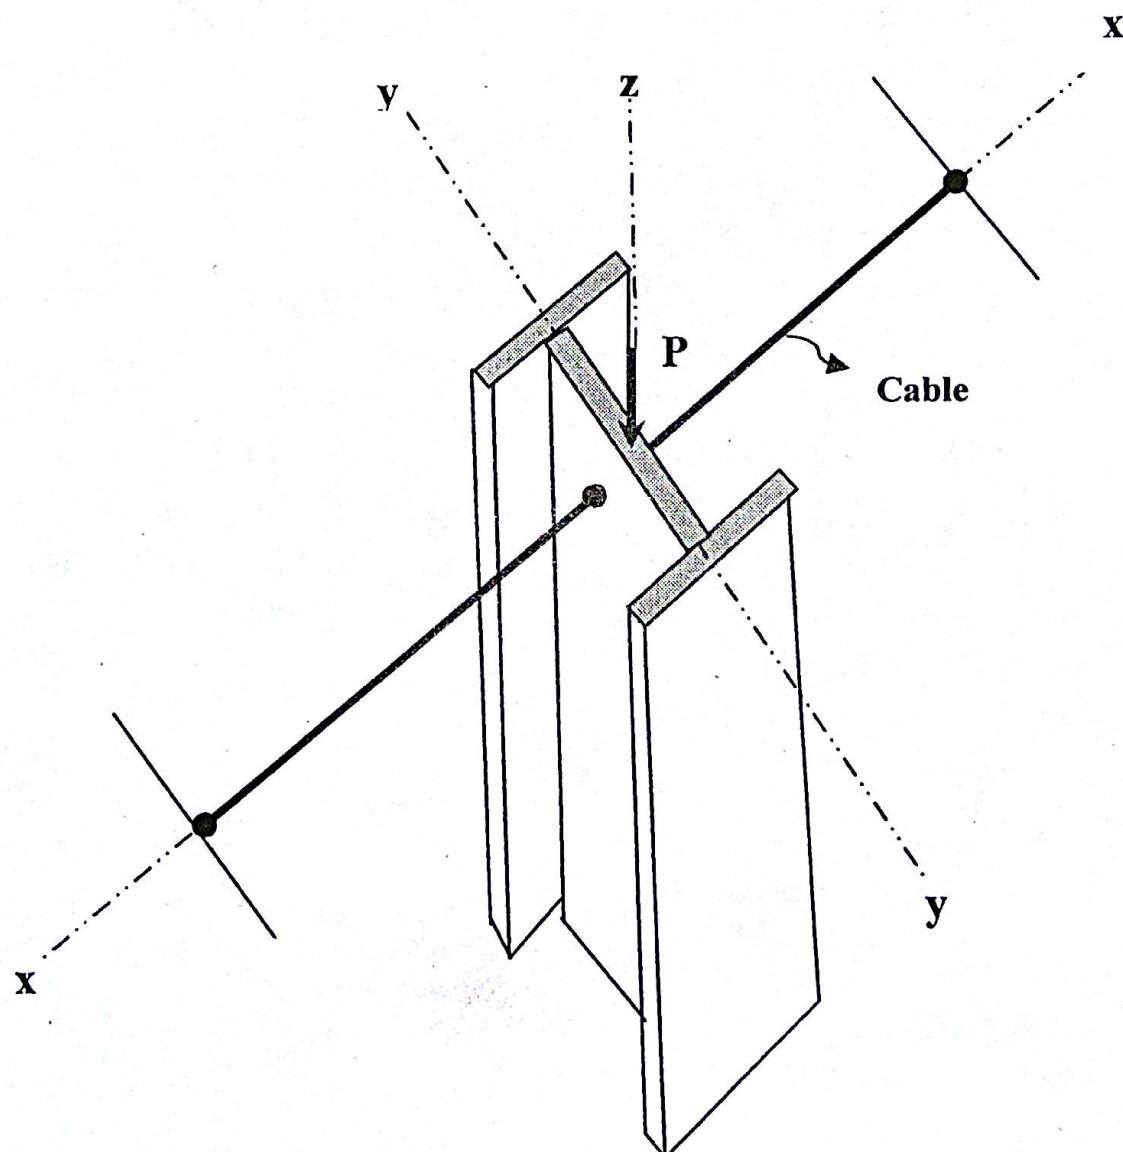

Figure No. 5 (c)
c) The aluminum column is fixed at its bottom and is braced at its top by cables so as to prevent movement at the top along the x -axis, as shown in Figure No. 5 (c). If it is assumed to be fixed at its base, determine the largest allowable load P 6